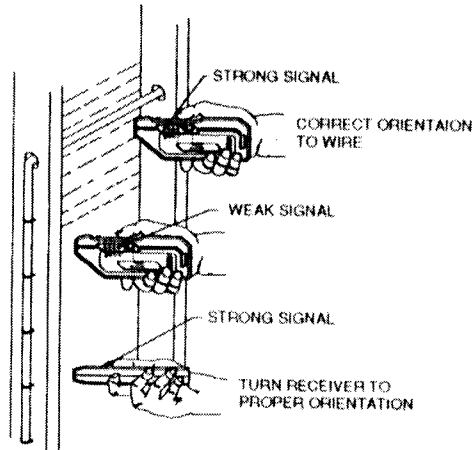

FIG. 9. TRACING WIRES
- Connect the X1000 Transmitter as in Fig.9 and turn the unit "ON".
- Proceed to trace the wire by moving the R1000 left to right over the path of the wire so that you can see the rise and fall of the signal level (see Fig.9). The strongest signal confirms the path of the wire. If the signal drops off, the wire may have taken a turn in another direction. Before attempting to adjust the sensitivity, back track and try tracing from another angle, if possible. If signal becomes too strong, adjust the sensitivity as necessary.
- Proceed to trace the wire by moving the R1000 left to right over the path of the wire so that you can see the rise and fall of the signal level (see Fig. 9). Adjust the "Sensitivity Range Switch" to display 3 LEDs of signal strength. The strongest signal confirms the path of the wire. If the signal drops off, the wire may have taken a turn in another direction, or may be open at this point. Before attempting to adjust the sensitivity, back track and try tracing from another angle, if possible. Pinpoint the location of the open (where the signal drops off) by reducing the sensitivity while decreasing the distance between the R1000 and the conductor.
- Proceed to trace the wire by moving the R1000 left to right over the path of the wire so that you can see the rise and fall of the signal level (see Fig. 9). Adjust the "Sensitivity Range Switch" to display 3 LEDs of signal strength. The strongest signal confirms the path of the wire. If the signal drops off, the wire may have taken a turn in another direction, or may be shorted at this point. Before attempting to adjust the sensitivity, back track and try tracing from another angle, if possible. Pinpoint the location of the short (where the signal drops off) by reducing the sensitivity while decreasing the distance between the R1000 and the conductor.